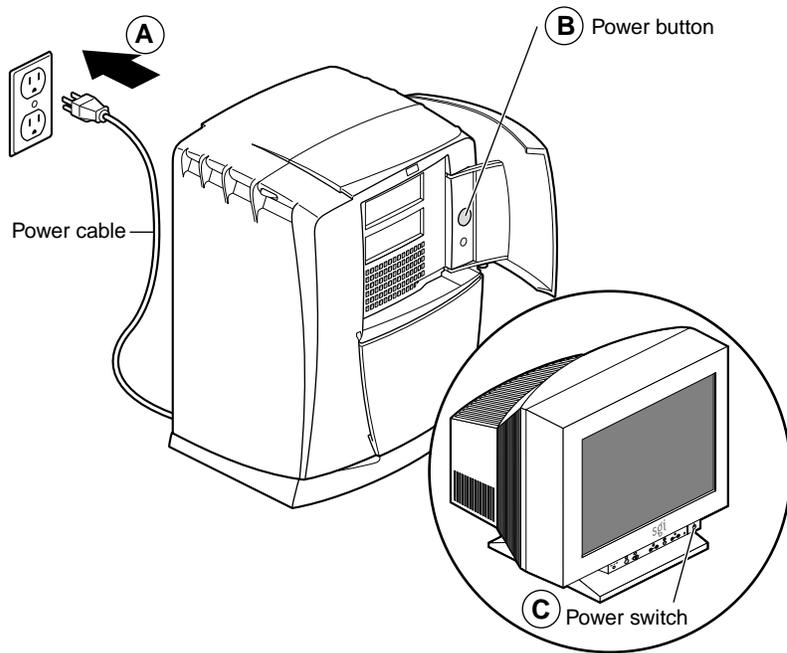

Figure 4-53 Replacing the Power Cord and Turning On the Workstation
2. Connect the workstation's power cable to an electrical outlet (see A in Figure 4-53).
3. Press the power button (B) to power on your workstation.
4. Press the monitor power switch (C) to power on your monitor.